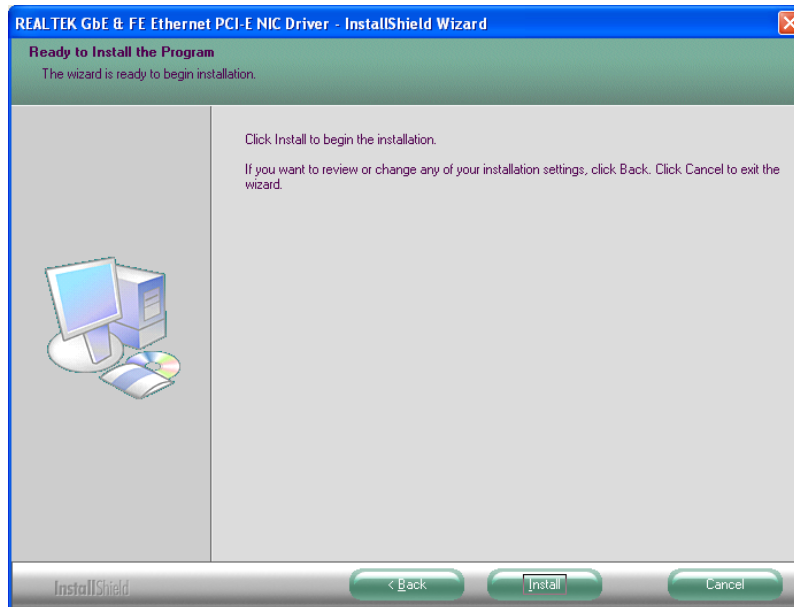

Figure 5-15: LAN Driver Welcome Screen
Step 7: The **Ready to Install** screen in **Figure 5-15** appears.